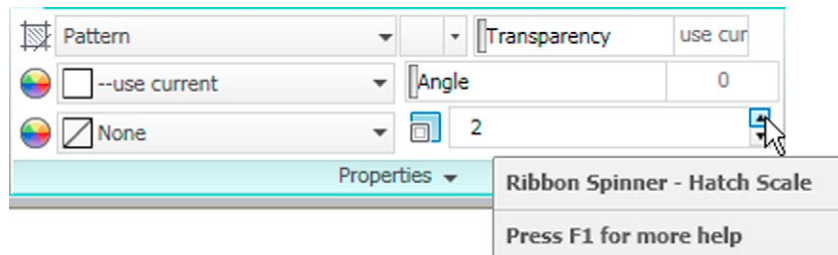

Fig. 7.14 Setting the **Hatch Scale** to **2** in the **Hatch Creation/Properties** panel
3. In the **Hatch Creation/Properties** panel adjust the **Hatch Scale** to **2** (Fig. 7.14).